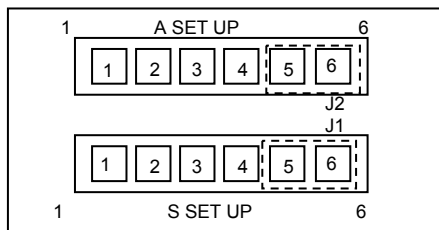

Figure 25
16. Position the jumpers on pins **5** and **6** of the **J1 (S SET UP)** and **J2 (A SET UP)** headers (Refer to Figure 25).